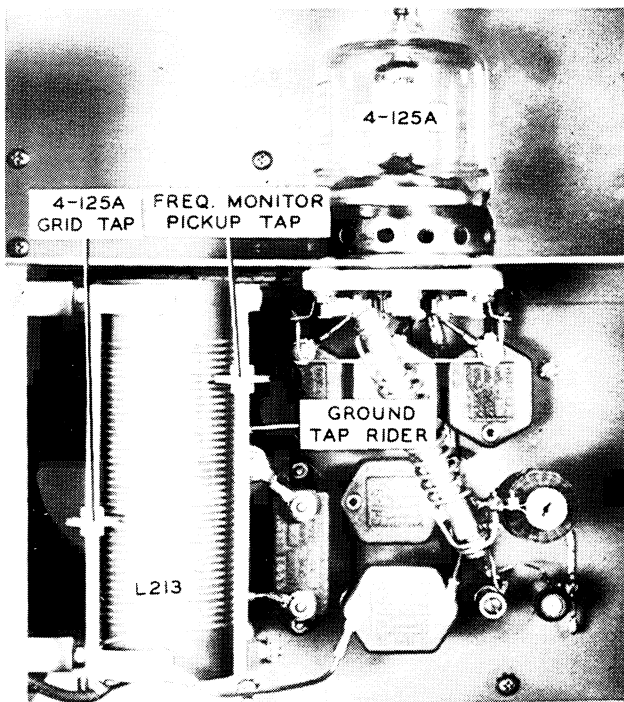

Figure 2-11 Buffer Amplifier
(1) Rotate the TEST selector switch to the 807's CATH. position.
(2) Rotate the TUNE METER SELECTOR switch to the 807's TUNE position and operate the tuning control. The cathode current will dip sharply when the point of resonance is reached. If the point of resonance cannot be found it will be necessary to change the tap on inductor, L213. Refer to figure 2-11 for the location of the inductor.
(3) Change the tap in steps of not more than two turns at a time until resonance is established with the tuning capacitor at approximately one-half capacity.
(d) Intermediate Amplifier Grid Adjustment. - The tank inductor, L213 is provided with a sliding connector to vary the degree of loading of the buffer amplifier plate circuit and the coupling to the grid of the intermediate amplifier tube. Refer to figure 2-11.